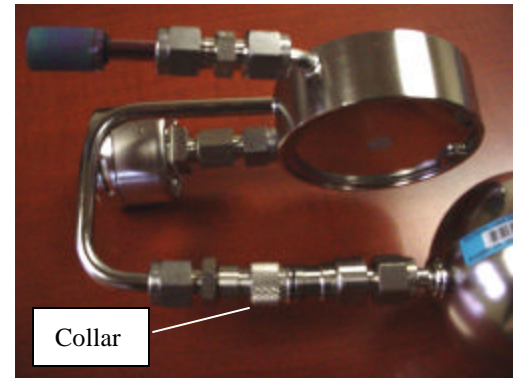

Fig 3: Time Regulator w/ Can
2) Time released regulator (figure 3)
- Hold the CS1200P regulator in one hand and slide back collar (figure 3)